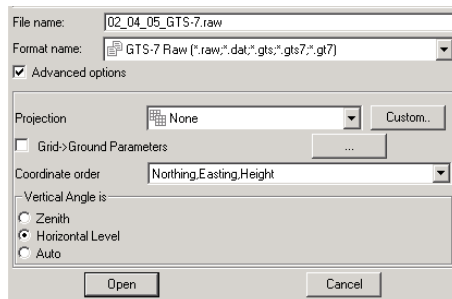

Figure D-11. Open Raw Data File
4. Select the following advanced options (Figure D-11):